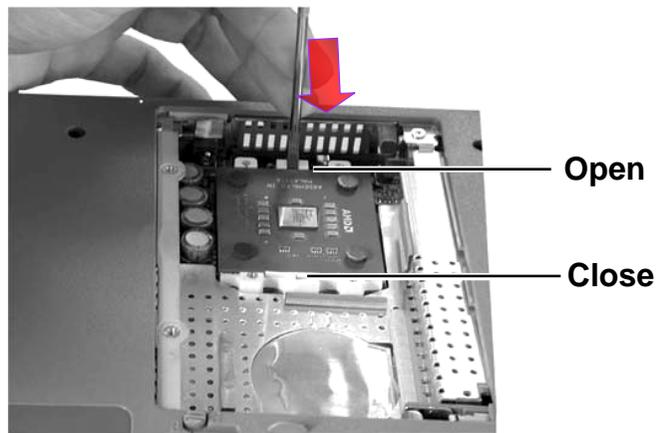

Figure 2-6
4. Insert a minus screwdriver 101 (JIS standard) into the “OPEN” hole of the socket, and push the screwdriver toward the CPU to free the CPU. Now you can take out the CPU from the socket. (figure 2-6)